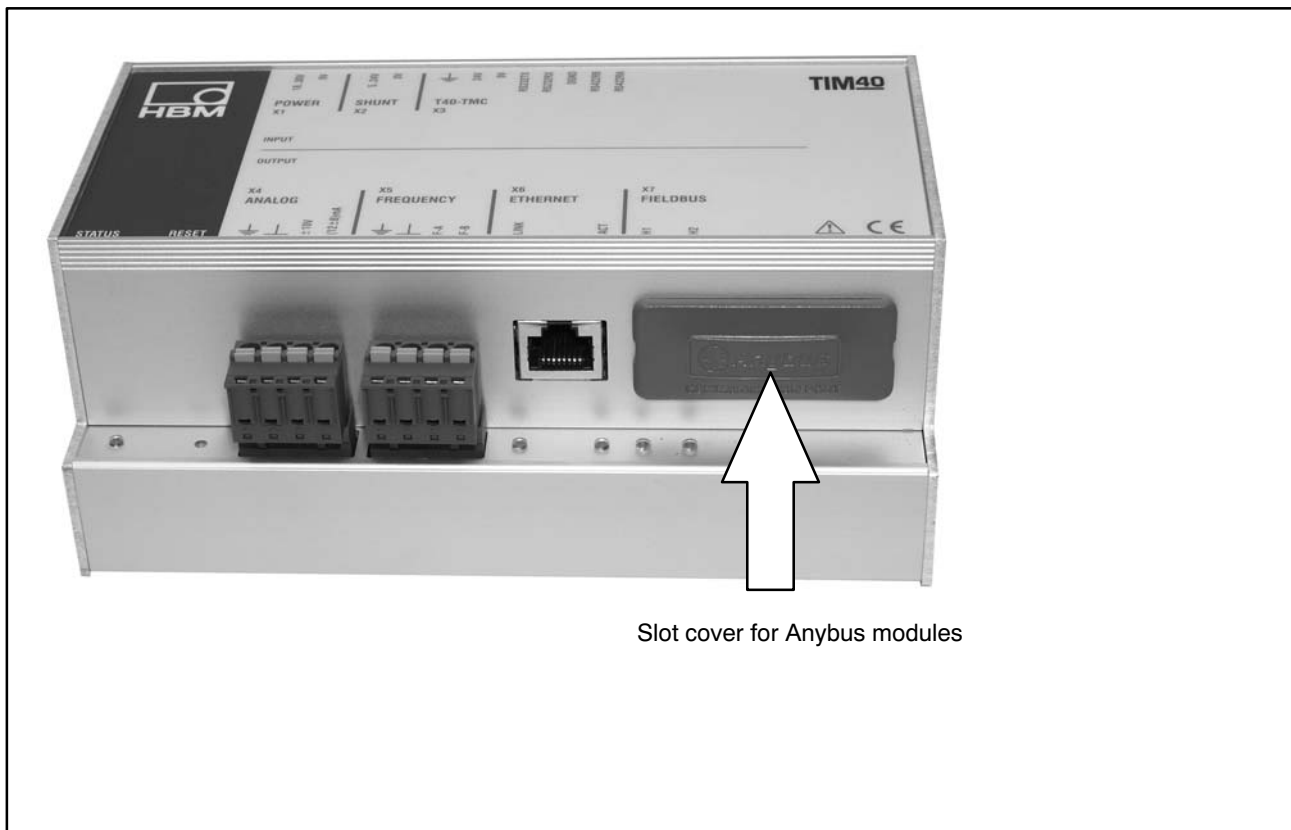

Fig.6.1: Remove cover
- 1) Place the TIM40 housing on a flat surface as shown in Fig.6.1.